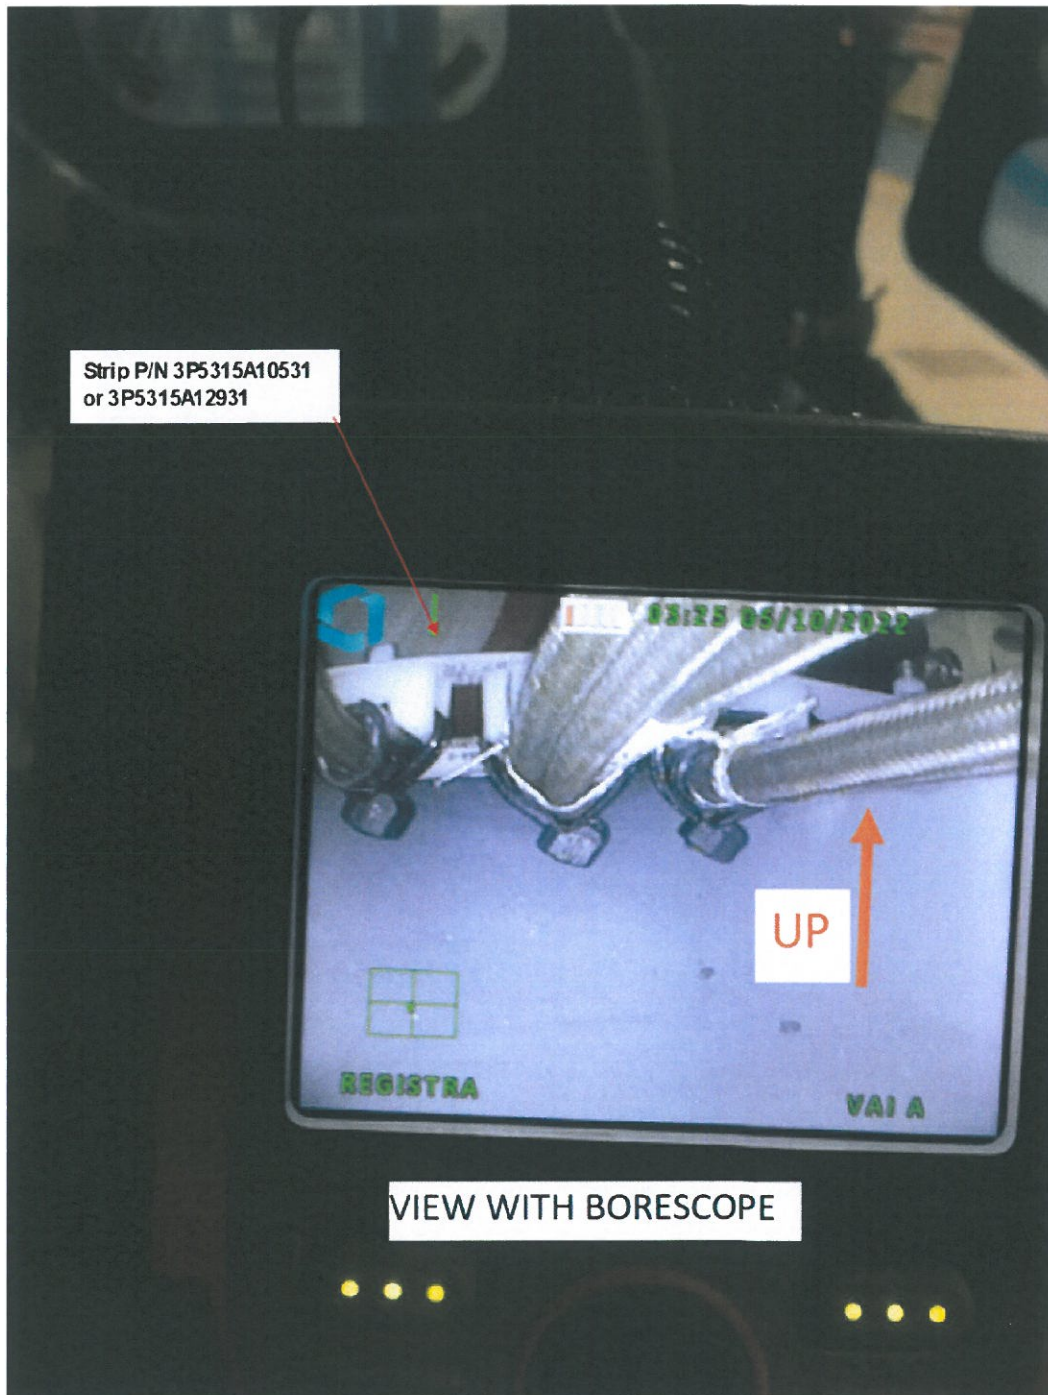

Figure 3
When C/A installation is correct, C/A are installed below the RH/LH strips P/N 3P5315A10531 and P/N 3P5315AA12931, as shown in Figure 3.
- 2.1.5 If C/As are installed correctly as shown in Figure 3, go to step 5 and close SB Part I application.
- 3.1 With reference to Figure 2 and Figure 3, perform a visual inspection of the C/As fixed to strips P/N 3P5315A10531 and 3P5315A12931 according to the following steps: